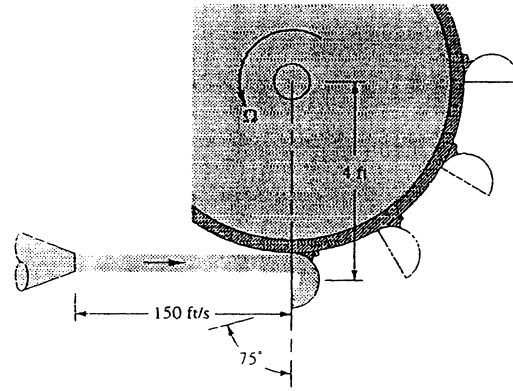

Fig. P3.123
**3.123** The waterwheel in Fig. P3.123 is being driven at 200 r/min by a 150-ft/s jet of water at 20°C. The jet diameter is 2.5 in. Assuming no losses, what is the horsepower developed by the wheel? For what speed  $\Omega$  r/min will the horsepower developed be a maximum? Assume that there are many buckets on the waterwheel.